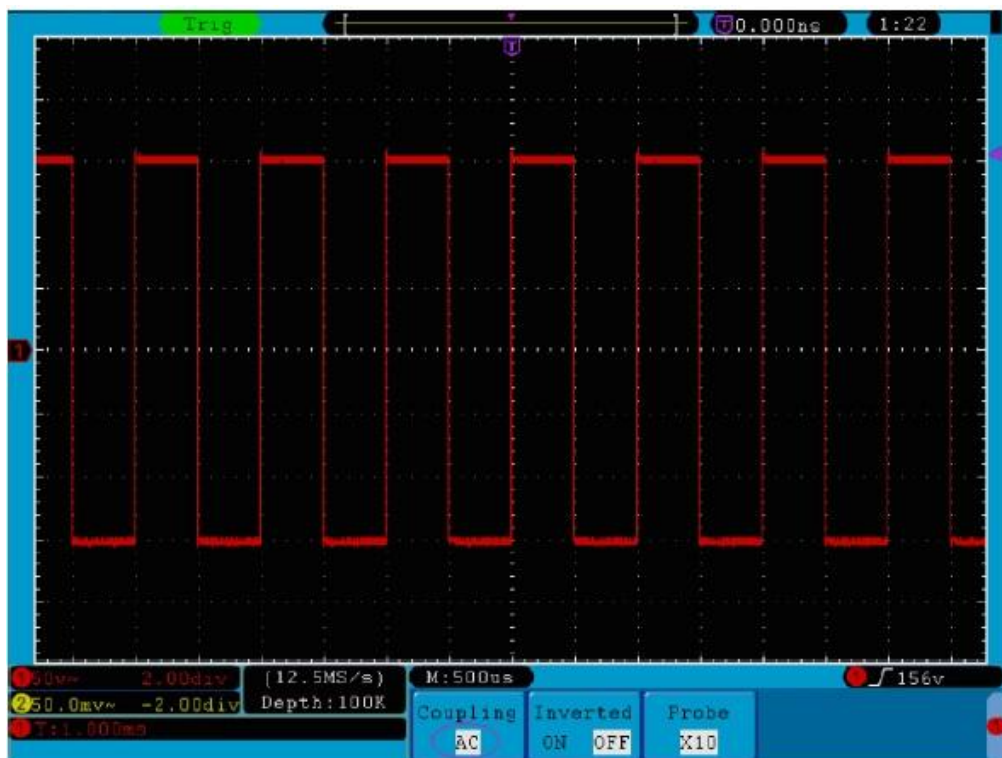

Fig. 14 AC Coupling Oscillogram
- \* Then, press **F2** button to select the Coupling item as “AC”. By setting the channel coupling as AC mode, the direct current component of the signal will be blocked. The waveforms are shown as **Fig. 14**.